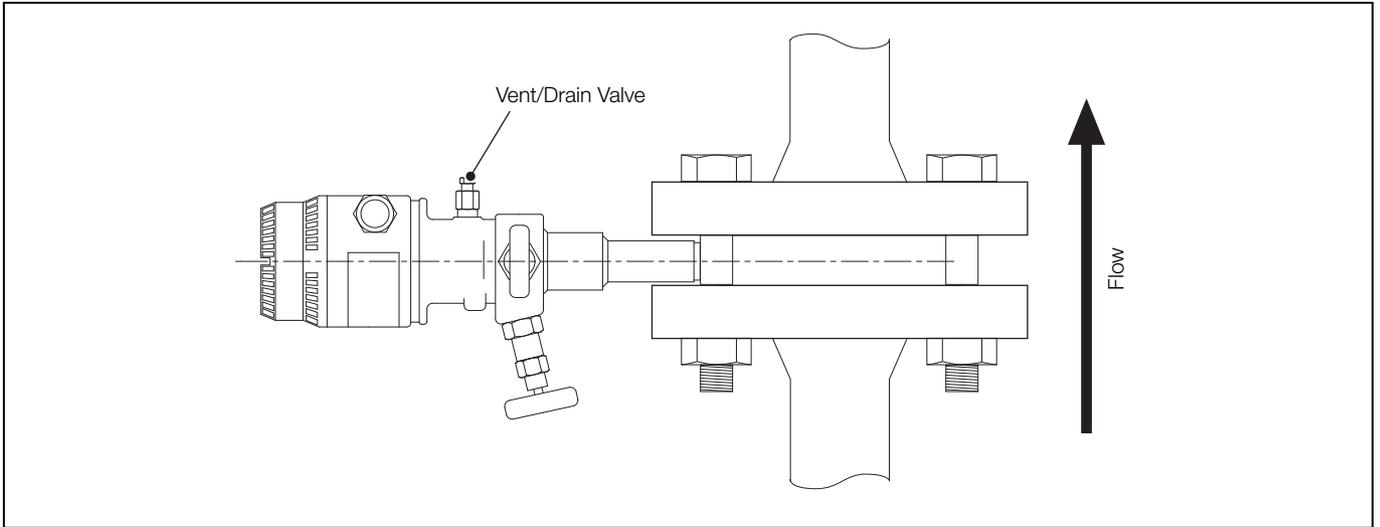

Fig. 2.5 Vertical Pipe Mounting – Liquid
- for vertical pipe mounting – liquid, refer to Fig. 2.5.